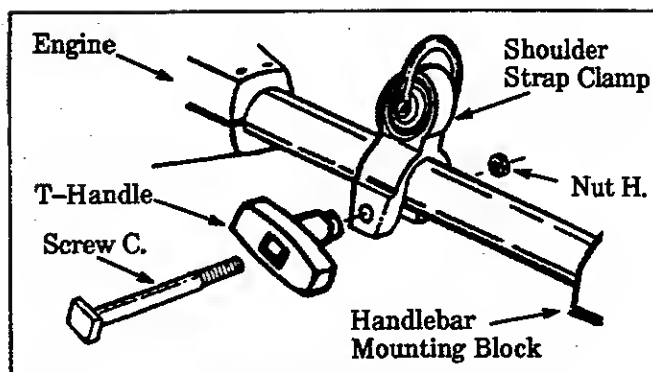

Figure 6
- a. Align Shoulder Strap Clamp between Handlebar Mounting Block and Engine. Figure 6.
- b. Firmly push the Shoulder Strap Clamp onto the Drive Shaft Housing. Figure 6. Be sure that the Shoulder Strap Clamp is installed with the hex shaped recession (on the clamp) facing the same side of the Drive Shaft Housing as the Barrier Portion of the Handlebar.